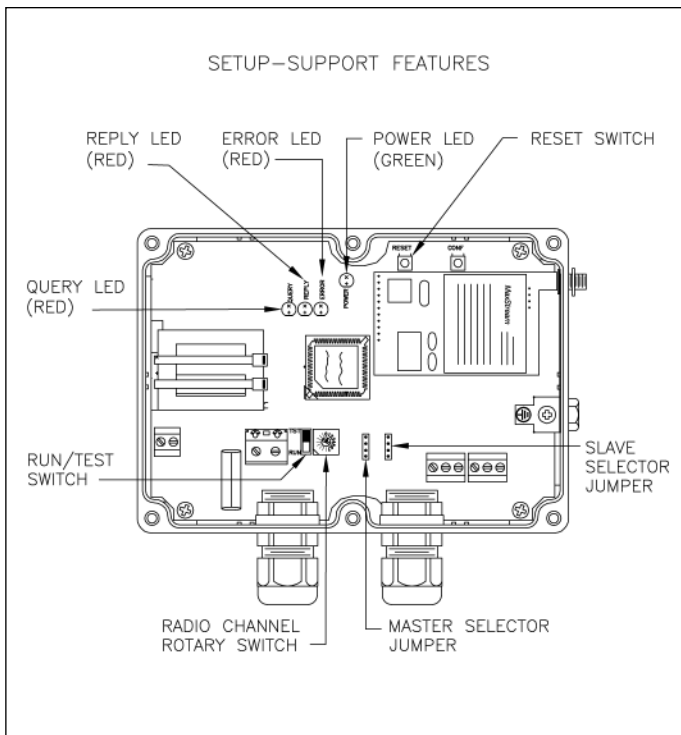

Figure 10
**Indicators:** (See Figure 10)
**Support Functions:** (See Figure 10)